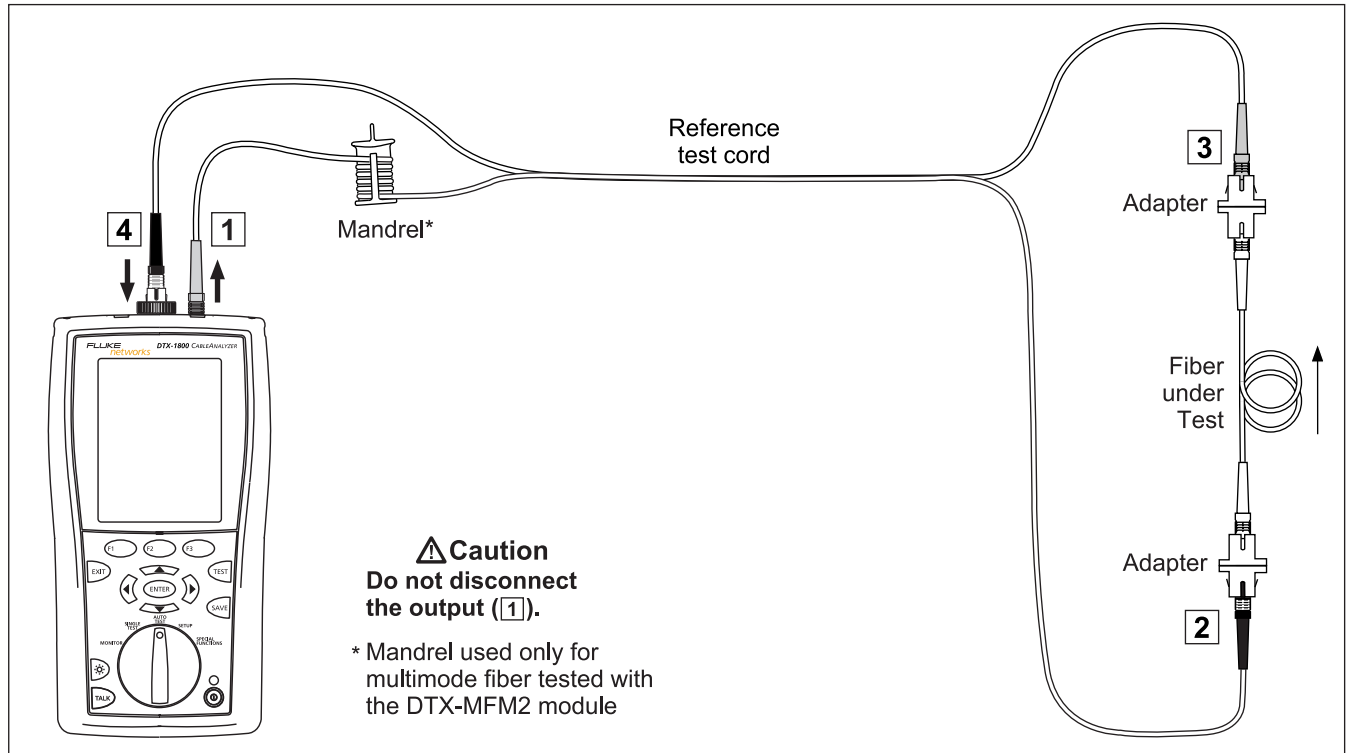

Figure 12. Loopback Mode Test Connections (Method B)
- 5 Clean the connectors on the cabling to be tested; then connect to the cabling. The tester shows connections for the test method you selected. Figure 12 shows connections for Method B.